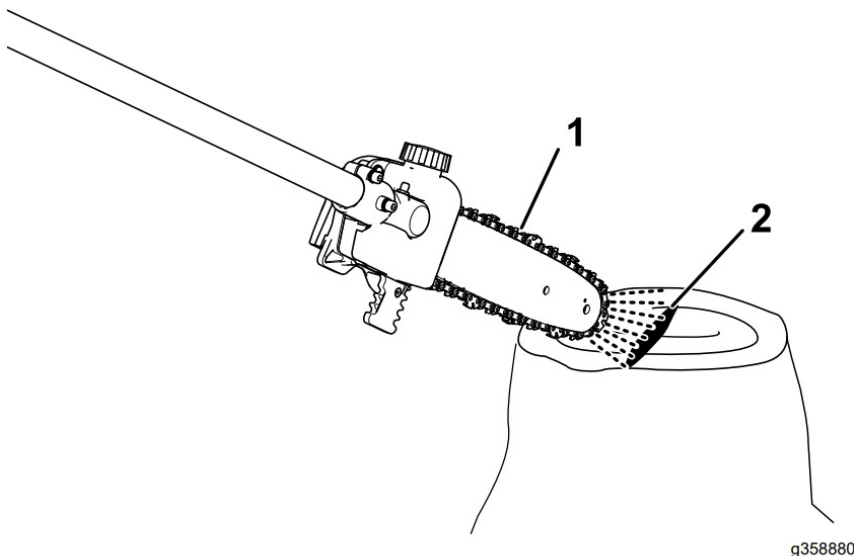

Figure 12
2. To ensure that oil is flowing to the chain, point the nose of the pole saw a few inches from a surface (e.g. paper, cardboard, a stump) and run the pole saw; you should be able to see a light spray of oil on the surface (Figure 12).